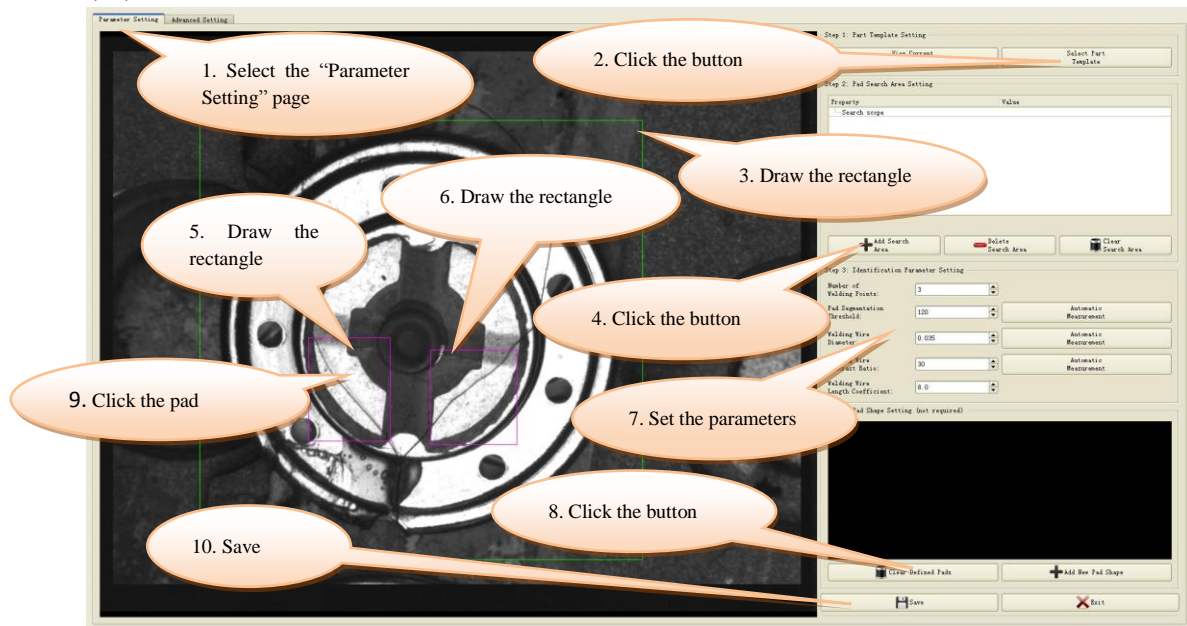

Fig. 7 Part Template Setting
- (1) Select the “Parameter Setting” page in the pop-up dialog box, as shown in Fig. 7;
- (2) Click the “Select Part Template”, then move the mouse to an appropriate location, press and hold the left mouse button to draw a rectangle including the part image in the image;
- (3) Click the “Add Search Area”, move the cursor into the image, and draw one or several rectangles including the pad according to the number of the pads required to be welded in the parts. The dimension and position of each rectangle can be finely adjusted in the parameter list at the upper right side; wherein, the positioning mode of the welding point is the positioning type of the welding point after the welding wire is extracted; the software supports the topmost, bottommost, leftmost and rightmost endpoints of the welding wire respectively, and if the offset is set, then move an offset value oppositely according to the different positioning mode. For instance, if the positioning mode is set to “Left Side Point”, and the offset is “0.2”, it indicates that the welding point is located at a position on the leftmost of the welding wire but moved by 0.2mm towards the right. The offset isn’t supported if the point positioning mode is “Middle Point”.
- (4) Set the “Number of Welding Points” according to the number of welding points of a single workpiece required to be welded among the workpieces.
- (5) Click the “Automatic Measurement” at the right side of the “Pad Segmentation Threshold”, and then select a rectangle including the pad boundary in the image with the mouse; the software will automatically calculate the contrast ratio of the pad and the background and display it on the interface. Fill this value in the “Pad Segmentation Threshold”.
- (6) Click the “Automatic Measurement” at the right side of the “Welding Wire Diameter”, and then select a small section of welding wire in the image respectively; the software will automatically calculate the welding wire diameter in the current image. Fill this value in the corresponding “Welding Wire Diameter” parameter item.
- (7) Click the “Automatic Measurement” at the right side of the “Welding Wire Contrast